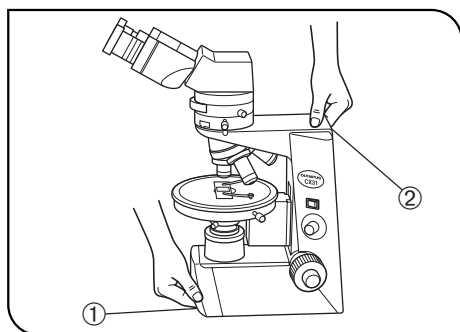

Fig. 2
- When moving the microscope, be sure to remove the specimen to prevent it from dropping and scattering, and hold the microscope by the positions shown in Fig. 2 on the next page.
2. To avoid potential shock hazards and burns when replacing the lamp bulb, set the main switch ① to "○" (OFF) then disconnect the power cord from the wall outlet in advance and, whenever you replace the bulb during use or right after use, allow the lamp replacement cover ② and bulb to cool before touching.
7. Never set the main switch ① to "I" (ON) while a metallic object is present in the air vents of the microscope, as this could result in electrical shock, personal injury and equipment damage.